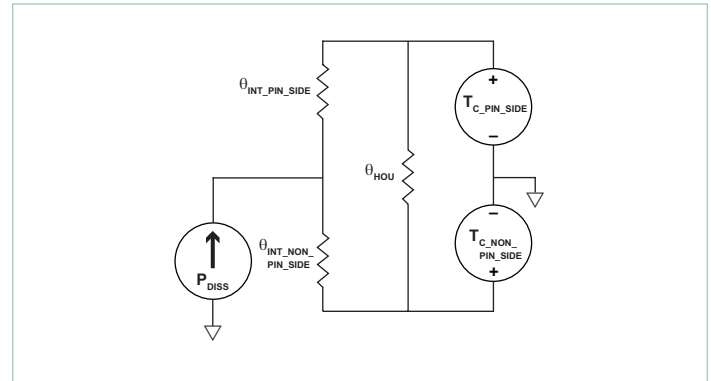
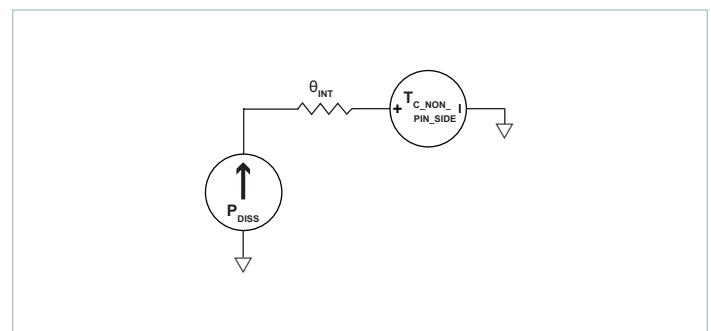

Figure 21 — Double-sided cooling thermal model
Figure 22 — Single-sided cooling thermal model
determining the maximum power that can be processed by a PFM, as can be seen from specified thermal operating area on Page 5. Since the PFM has a maximum internal temperature rating, it is necessary to estimate this internal temperature based on a system-level thermal solution. To this purpose, it is helpful to simplify the thermal solution into a roughly equivalent circuit where power dissipation is modeled as a current source, isothermal surface temperatures are represented as voltage sources and the thermal resistances are represented as resistors. Figure 21 shows the “thermal circuit” for the PFM in a VIA package.
- Single-side cooling: the model of Figure 21 can be simplified by calculating the parallel resistor network and using one simple thermal resistance number and the internal power dissipation curves; an example for non-pin-side cooling only is shown in Figure 22.